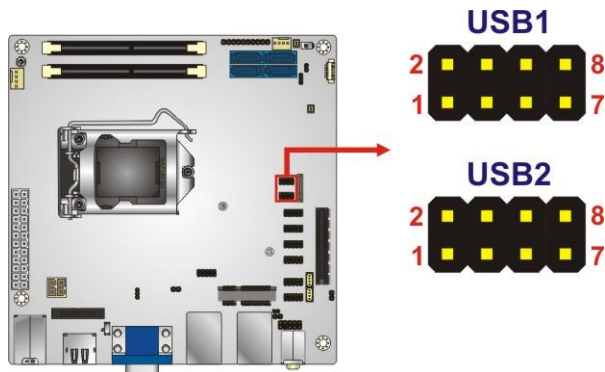

Figure 3-26: USB Connector Locations
- CN Location:** See **Figure 3-26**